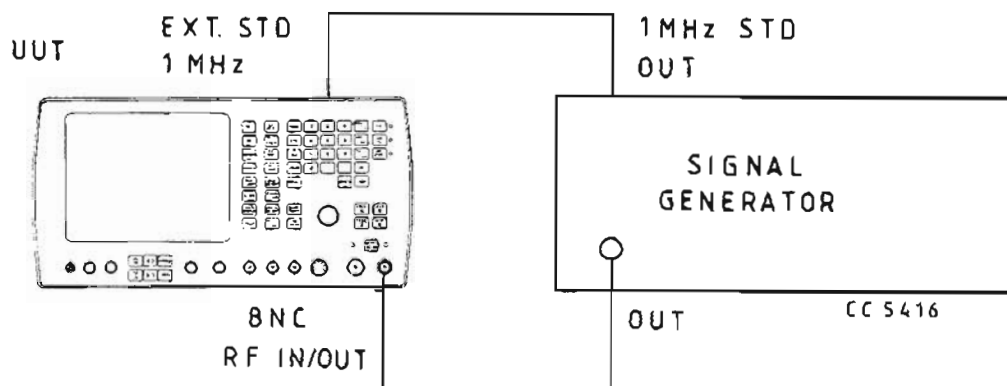

Fig. 9 Test equipment connections for r.f. frequency meter accuracy performance checks
- (1) Connect the equipment as shown in Fig. 9.